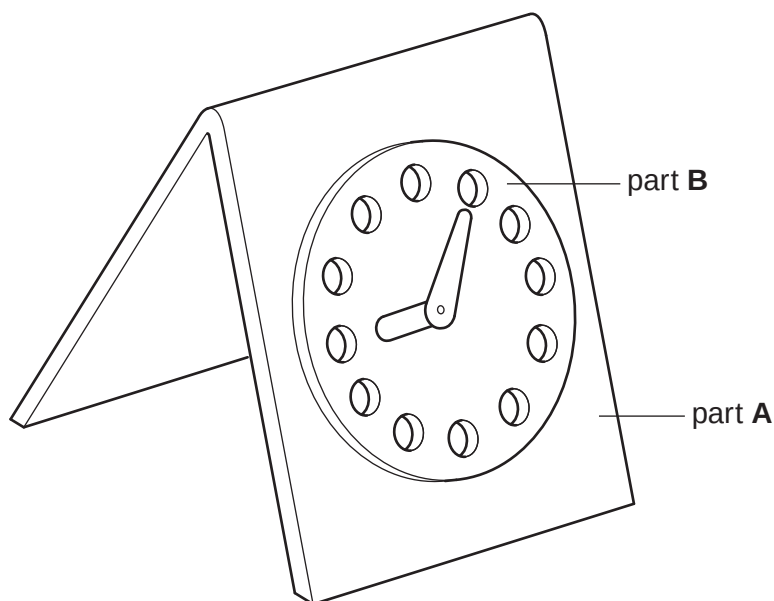

Fig. 3
- 3 Fig. 3 shows a clock which is to be made in a school workshop.